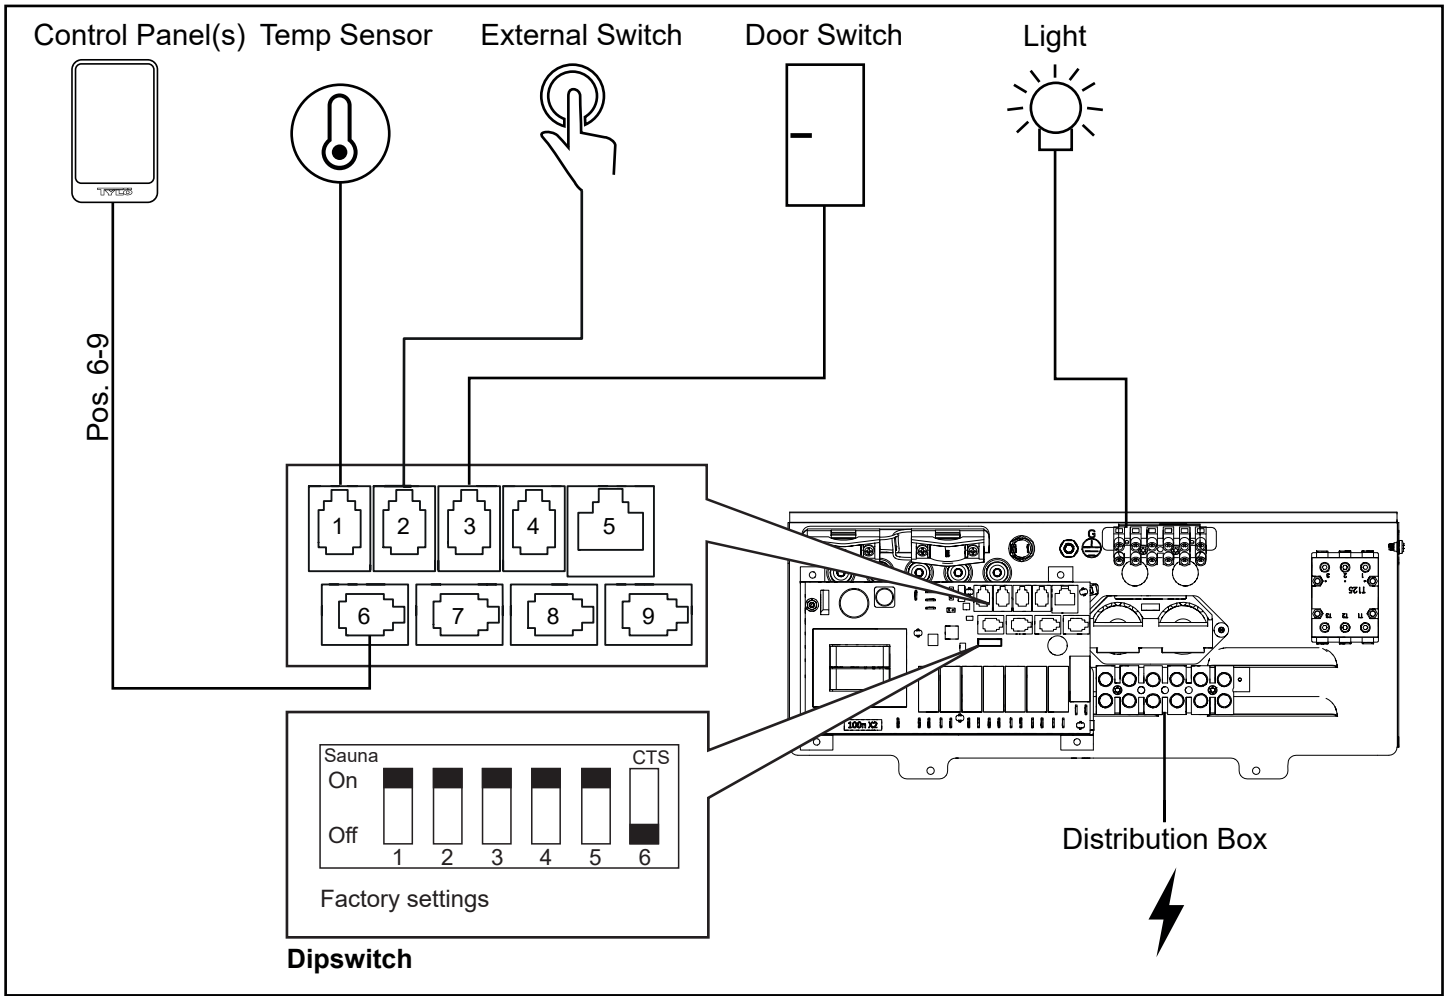

Figure 18. Schematic diagram of installation Sense Elite
4. Run the cables for the control panel and the temperature sensor through the cable grommets (see Figure 9). Connect the control panel cable to one of the four RS485 contacts (positions 6-9) (see Figure 18).
5. Connect the sensor cable to the NTC contact on the circuit board (position 1) (see Figure 18).